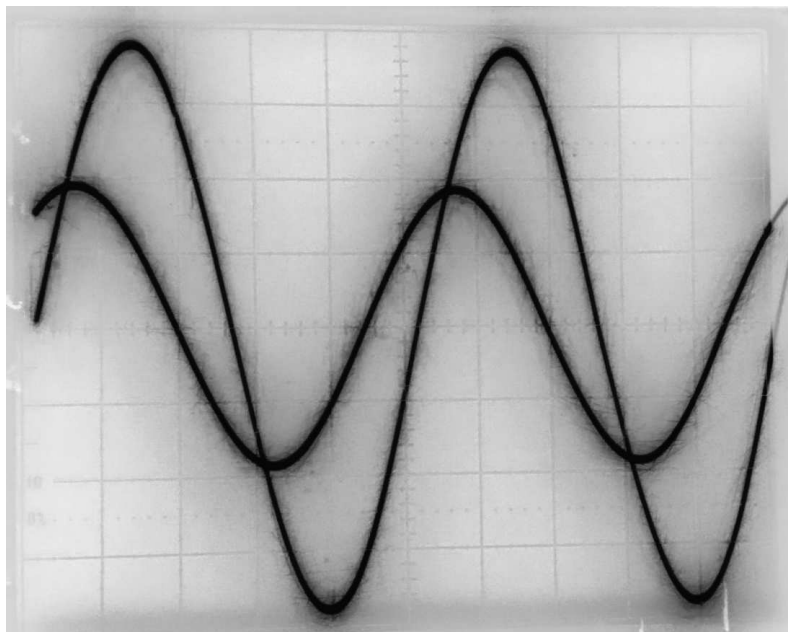
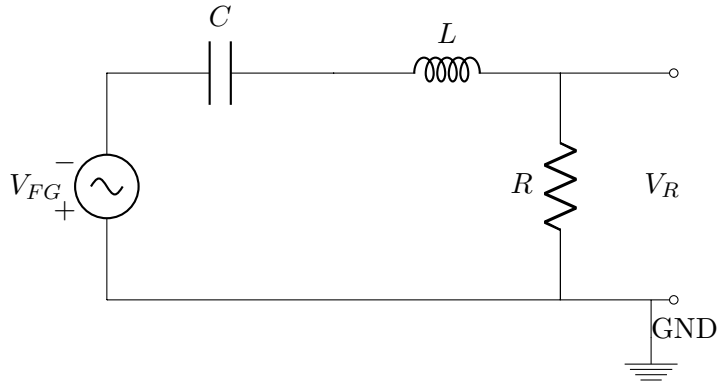

Figure 1: The larger signal is V_{FG} . The smaller signal shifted to the left is V_R .
Figure 2: Channel 1 of 'scope should measure V_{FG} . Channel 2 should measure V_R .
You will build the circuit shown in figure 2 below consisting of a function generator, connected to a capacitor an inductor and a resistor. All measurements will be made by connecting appropriate cables to the circuit and an oscilloscope.
- (1) **Measure components R and C** – Select a 400Ω resistor and a 22 nF capacitor. Use your multimeter to measure the actual resistance and capacitances that you picked.
- (2) **Measure component L** – Select a $L=4 \text{ mH}$ inductor. Use the HP4261 inductance meter in the lab. (It should be set to 1 V , Auto , 1 kHz and Series). The inductor *also* has some resistance, which you should measure with your multimeter. This resistance should be considered to be a built-in series resistance for the purposes of your analysis.
- (3) **Build RLC circuit** – Build circuit according to figure 2. Use a T-connector and two BNC cables to hook the function generator both to channel 1 of the oscilloscope and to V_{FG} on the circuit. Note that the black alligator clip must be connected to the circuit GND . Set the function generator to produce roughly 2 V amplitude at $f=10 \text{ kHz}$. Take a third BNC cable and connect the alligator clips to measure V_R . Connect V_R to channel 2 of the 'scope. If you did it correctly your 'scope should look something like figure 1 for the 'scope on the 500 mV/division setting.